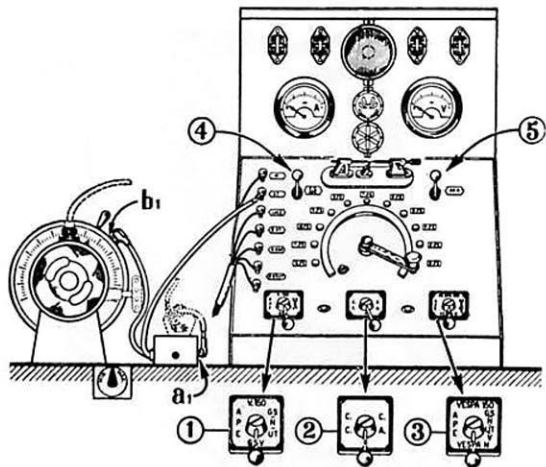

Fig. 74. Flywheel magneto test stand.
The flywheel magneto test stand 8290/R (see Fig. 74) consists of the following units :
- (h) 3 main switches (1-2-3 of Fig. 74), each showing the specific positions for the different
- (i) 2 switches (4 and 5 in Fig. 74), with two positions, for Vespa Commercial and Vespa G.S. having battery coil ignition (see also page 80).
- (b) Take the black cable from the flywheel and connect it to clamp “1” of the primary winding of the external ignition coil (Fig. 74). Clamp “2” of said coil should be connected with the red cable from the flywheel magneto.
the other to the H.T. clamp on the panel. The lead from the coil must be directly connected to clamp "a1" (see Fig. 74).